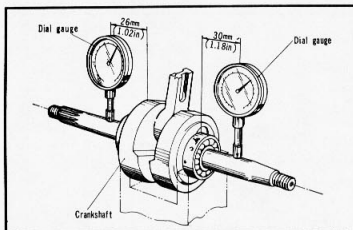

Figure 3-72. Measuring crankshaft alignment
- (1) Support the crankshaft on V blocks at both bearings and measure the amount of runout. (Fig. 3-72)